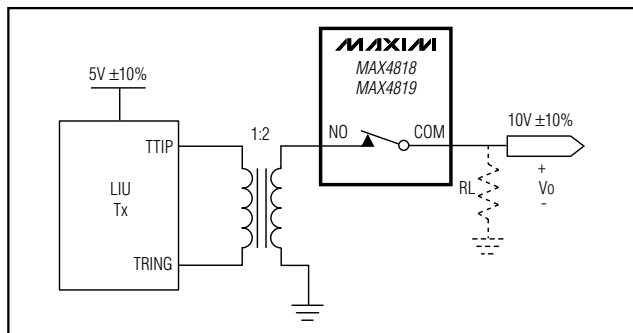

Figure 1. Fault Protection
The fault protection of the MAX4818/MAX4819 allows the devices to handle input signals of more than twice the supply voltage without clamping the signal, latching up, or disturbing other cards in the system. The device detects when the input voltage drops below the negative supply. As soon as a fault condition is detected, the switch is immediately turned off for 128 clock cycles (typically 128 μ s). At the end of the 128 μ s timeout, the switch is turned back on for one clock cycle. At the end of the one clock cycle, if the signal is within the operating range, the switch will remain on. Otherwise, the device will turn the switch off again for 128 clock cycles. This will repeat until the signal is within the operating range. In T1/E1 redundancy applications, this can happen when the load resistor (RL) is removed or disconnected for any reason, as shown in Figure 1. Without a load resistor, the output voltage when using a 1:2 transformer can be as high as $\pm 11V$.
Figure 1 is a block diagram of a 4-line card architecture. It shows three line cards (LINE CARD 1, LINE CARD 2, and LINE CARD N) and a PROTECTION LINE CARD. Each line card contains two T1/E1 LIU (Tx and Rx) blocks connected to a transformer with load impedance Z_L . The PROTECTION LINE CARD also contains two T1/E1 LIU blocks. A central BACKPLANE contains four MAX4819 transceivers. The Tx outputs of LINE CARD 1 and LINE CARD 2 are connected to the COM inputs of the MAX4819s. The Rx inputs of LINE CARD 1 and LINE CARD 2 are connected to the NO1 inputs of the MAX4819s. The Tx outputs of the PROTECTION LINE CARD are connected to the NO2 inputs of the MAX4819s. The Rx inputs of the PROTECTION LINE CARD are connected to the NO3 inputs of the MAX4819s. The NO4 inputs of the MAX4819s are connected to the TRANSMIT and RECEIVE ports of the external transceivers.